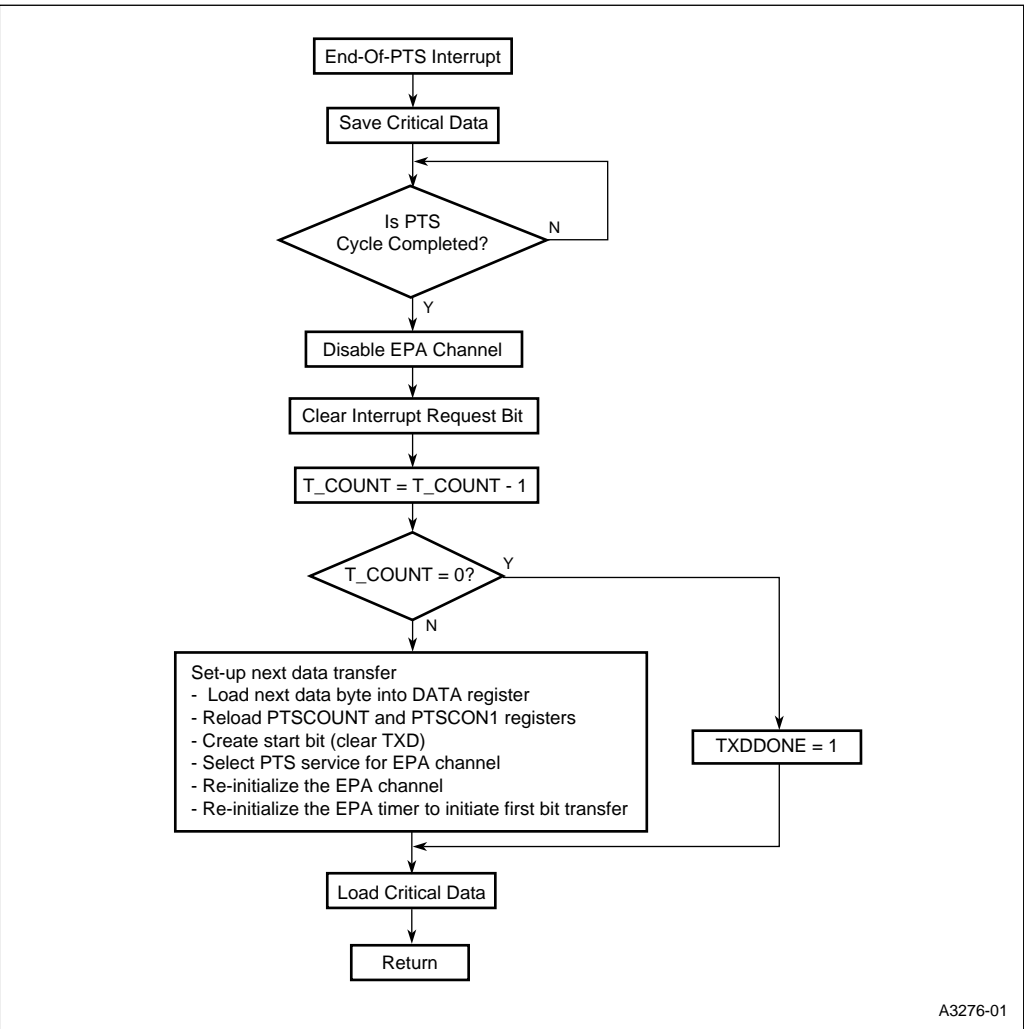

Figure 5-26. Asynchronous SIO Transmit Mode — End-of-PTS Interrupt Routine Flowchart
14. The transmission will begin. Data is shifted out with the least-significant (rightmost) bit first. Each time a timer match occurs between EPA0_TIME and TIMER1, the EPA0 channel generates an interrupt and the PTS outputs the next bit of data on the pin configured as TXD. When PTSCOUNT decrements to zero, the PTS calls the end-of-PTS interrupt (Figure 5-26). The interrupt service routine should load the next data byte, reload the PTSCOUNT and PTSCON1 registers, clear the TXD bit to create the start bit for the next word to be transmitted, select PTS service for EPA0, and reload both the EPA0_CONTROL and EPA0_TIME registers.